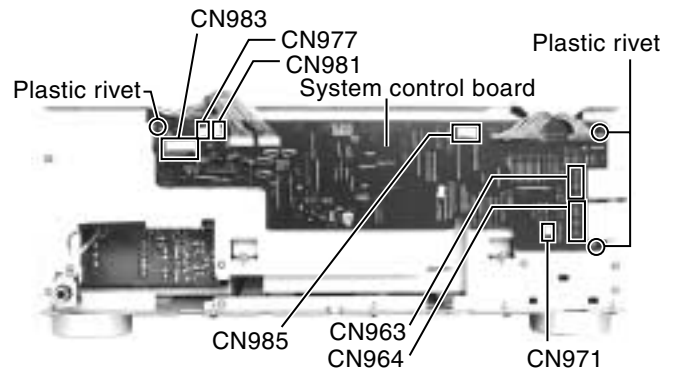

Fig.5
2. Disconnect the harness from the connector CN971, CN977, CN983 and CN985 on the front control board (see fig.5) and CN973 on the front AV in board (see Front panel assembly section/ fig.2).
## ■ Removing the system control board (See Fig.5 and 6)